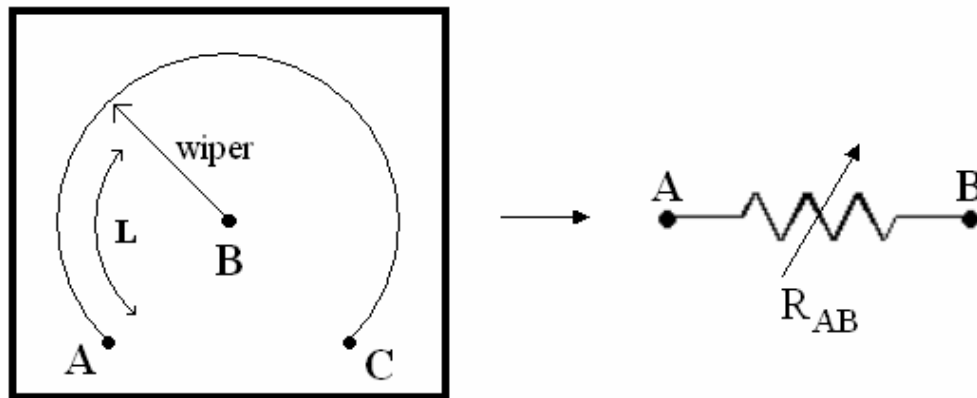

Figure 2. Potentiometer and circuit symbol
2. Using the waveform generator as  $V_{in}$  and a 10k $\Omega$  potentiometer (variable resistor) from the parts kit as R2, design a voltage divider circuit having a  $V_{out}$  of 2Vp-p when the potentiometer is set to 5k $\Omega$ . **(1) Sketch the voltage divider and include the resistor value calculations.**
3. Using the DMM, adjust the potentiometer to 5k $\Omega$  between pins B and either A or C – it doesn't matter (see Figure 2 below). These will be the pins used in the circuit. Construct the voltage divider circuit.
4. Monitor the input and output of the circuit simultaneously using the oscilloscope. **(2) Make a printout of these waveforms including Vp-p measurements. (3) Vary the potentiometer and record the range of the output.**
5. Exchange the resistors and **(4) vary the potentiometer and record the range of the output.**
6. With the potentiometer set at 5k $\Omega$ , adjust the waveform generator to have a dc offset of -1V. **(5) Make a printout of these waveforms including both  $V_{avg}$  measurements and Vp-p of  $V_{out}$ . (6) Vary the potentiometer and record the effect on the amplitude and dc offset of the output voltage.**